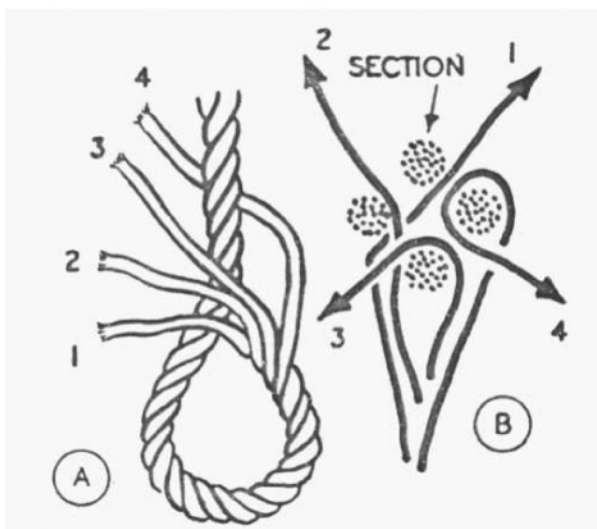

Fig. 5. – An eye splice in four stranded rope
To make an eye splice in four-stranded rope (Fig. 5), start as for the three-stranded splice, but lay three end strands on top and one under neath (A). Tuck strand 3 under the most convenient strand of the standing part, then take strand 2 in where 3 comes out and under the next one. Tuck strand 1 in the same space as 2, but go under two strands. Turn the rope over and tuck the fourth strand under the remaining strand of the standing part, going in where strand 1 comes out (B). It will be seen that strands 2, 3 and 4 are tucked in the same way as strands 1, 2 and 3 in a three-stranded rope splice. From this point proceed as for a three-stranded splice, making three whole and two taper tucks.